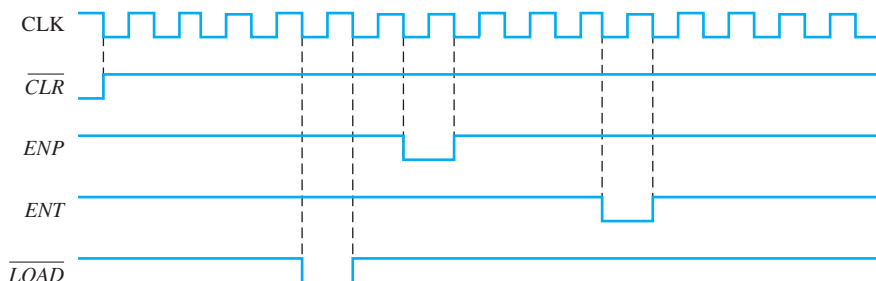

FIGURE 9–71
13. The waveforms in Figure 9–71 are applied to a 74HC161 counter. Determine the Q outputs and the RCO . The inputs are $D_0 = 1$, $D_1 = 0$, $D_2 = 0$, and $D_3 = 1$.